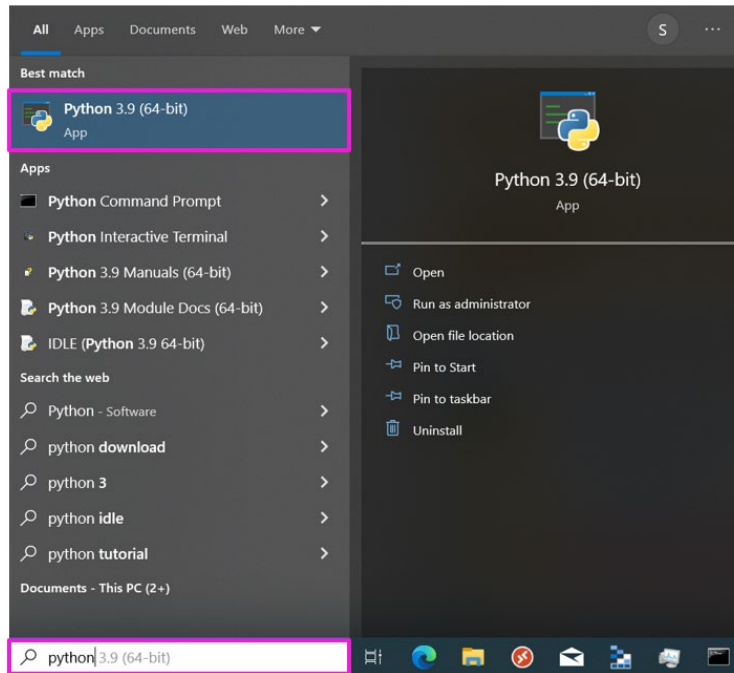

Figure 116. Using taskbar to search for Python version.
- Alternatively, if Python is already installed, the Python version can be checked by searching Python in the desktop taskbar (Figure 116).